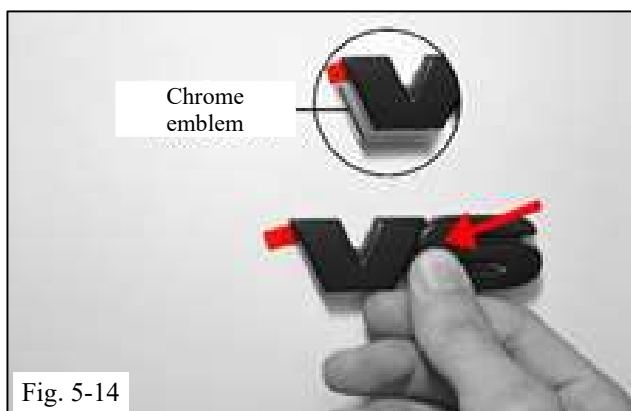

Fig. 5-14
- (e) Check fitment of emblem cap over factory chrome emblem (Fig. 5-14).